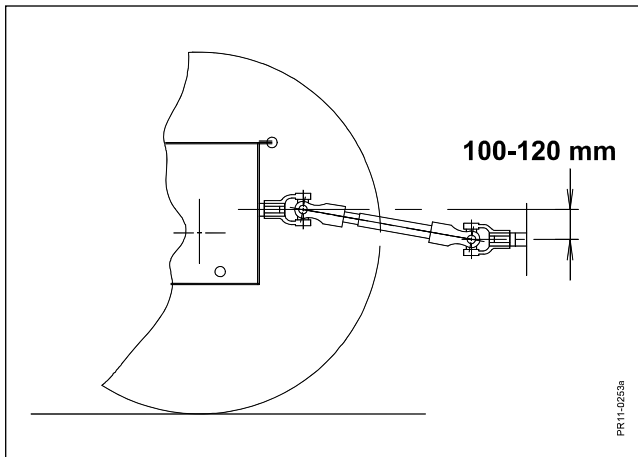

Fig. 2-13
- Fig. 2-13 8) The working position of the machine is determined, as the power take-in (PTI) on the right angel gear on the headstock must be 100 - 120 mm lower than the PTO shaft of the tractor. This corresponds to an inclination of the PTO shaft of approx. 10°.